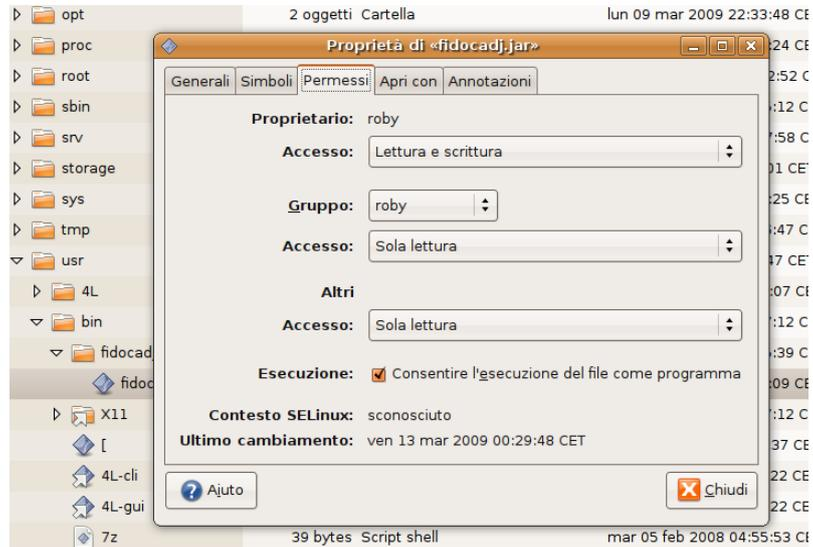

Figure A.1.: The setting of file rights, on Ubuntu 8.04.
- Let's do right click on the file, from the window we select the tab "rights", we add the check mark in front of the "Allow the execution of the file as a program", as shown in the figure A.1